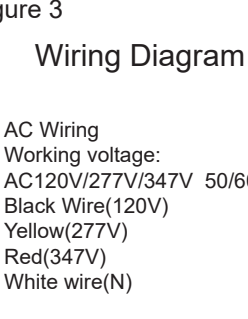

Figure 3
4. Make Proper wiring connections between the AC supply and the unit's transformer(Fig.3):
Battery may be connected in reverse polarity. Check connections. Connect Positive lead to Positive battery terminal and Negative lead to Negative battery terminal. The lamps should then turn off and the charge indicator should light when AC power is applied. (Fig.3)